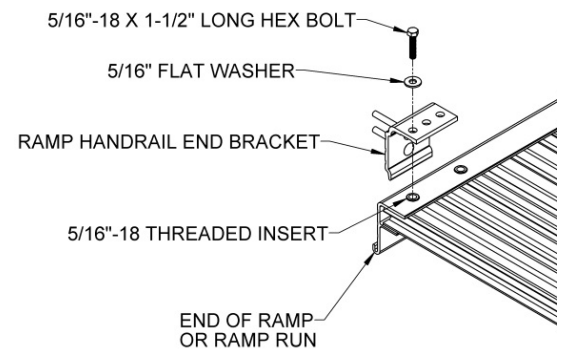

FIG 3.2
- 3.1.6. Locate PRHBPR (RAMP HANDRAIL END BRACKET PAIR). Install four end brackets (these will be used to attach handrails in a later step). Use one end bracket at each outside corner of the ramp or ramp run using one 5/16" x 1-1/2" bolt and washer into the threaded insert closest to the end of the ramp (FIG. 3.2).